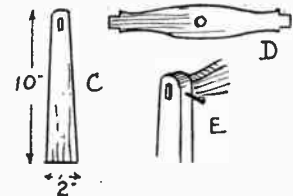

Fig. 3—Details of the handle
The handle arrangement is drawn in Fig. 3. The side pieces of it (C) can be cut from any available wood, not too thick. About $\frac{1}{2}$ in. will be ample. The cross piece (D) is cut to the overall width of the trug, with enough at each end for a tenon to enter parts (C). Cut it $1\frac{1}{2}$ ins. wide, and shape up as shown;